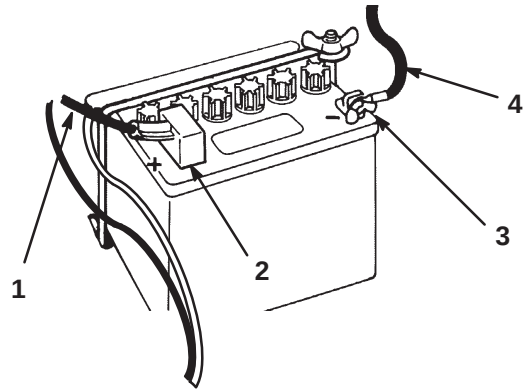

Figure 22
8. Install the battery into the chassis (Fig. 22).
10. Using the bolt and wing nut, connect the positive (red) cable to the positive (+) battery post (Fig. 22). Slide the rubber cover over the battery post.
11. Using the bolt and wing nut, connect the negative (black) cable to the negative (–) battery post (Fig. 22).